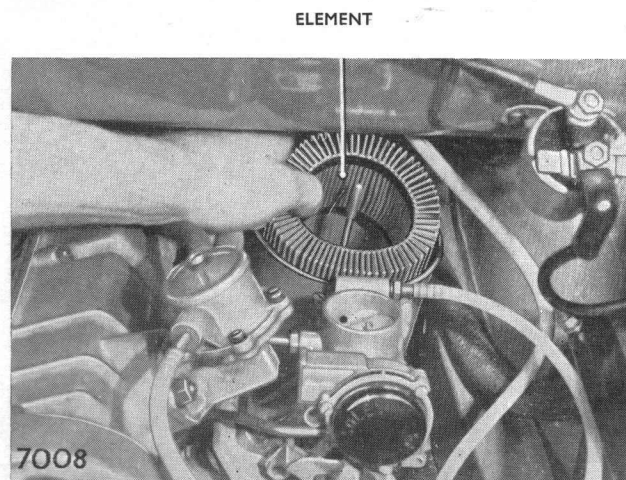

Fig. 22. Removing air cleaner element
4. Lift out element and clean out cleaner body. See Fig. 22.